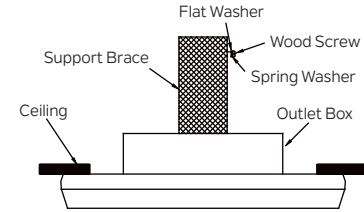

Fig. 11
Step 1. Drive a wood screw and washers into the side of the brace that holds the outlet box. Leave 3mm (1/8") of space between the support brace and the washer. (Fig. 11)